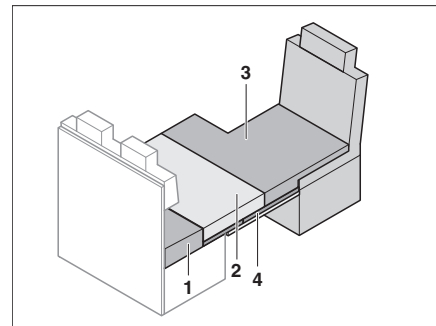

Fig. 187 After conversion
- Lay the additional cushion (Fig. 187,3) on the driver's seat.
- Lay the seat cushion (Fig. 187,2) on the guest bed foundation.
- Lay the back cushion (Fig. 187,1) between the seat cushion and the rear wall. Observe the wedged form.